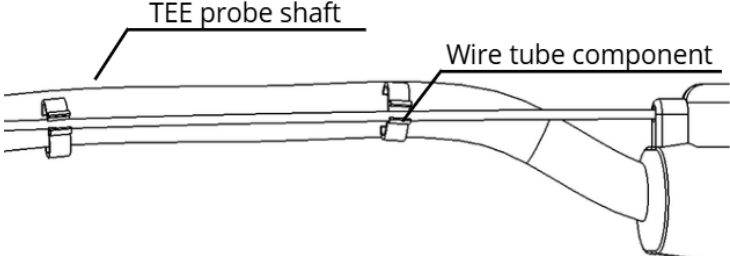

Fig. 5
4. Connect Wire tube component on to TEE ultrasound probe tube (see Fig. 5).